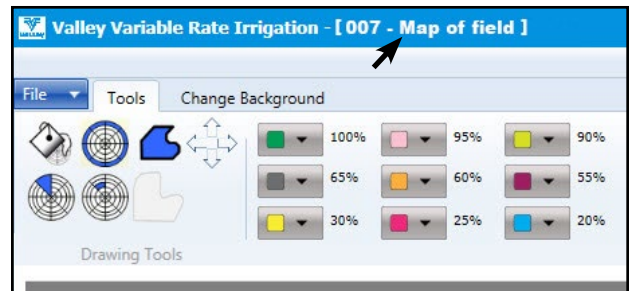

Figure 35-2 Top Menu Bar, Prescription Name
3. Once you have selected a prescription it will load. Check the name in the top menu bar to confirm the selected prescription has loaded. See Figure 35-2.